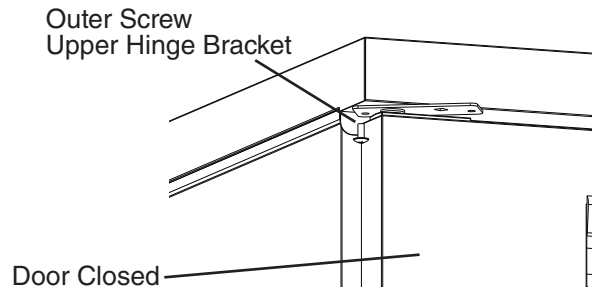

Fig. 17
- 12) Apply Loctite Threadlocker Blue 242 or 243 to the outer screw's threads, then install the outer screw into the upper hinge bracket. Do not tighten the screw yet. Start the screw for a few threads only and leave loose. See Fig. 17. Note: The door being reversed must be in the closed position. However, the adjoining door may be opened for ease of access.